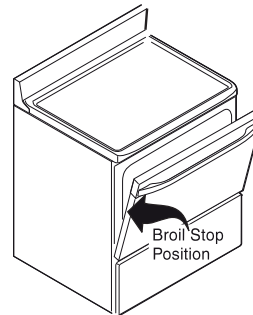

Figure 12: Open door to stop position when broiling
4. Place the broiler pan on the oven rack. Leave the oven door open at the broil stop position when broiling (Figure 12).